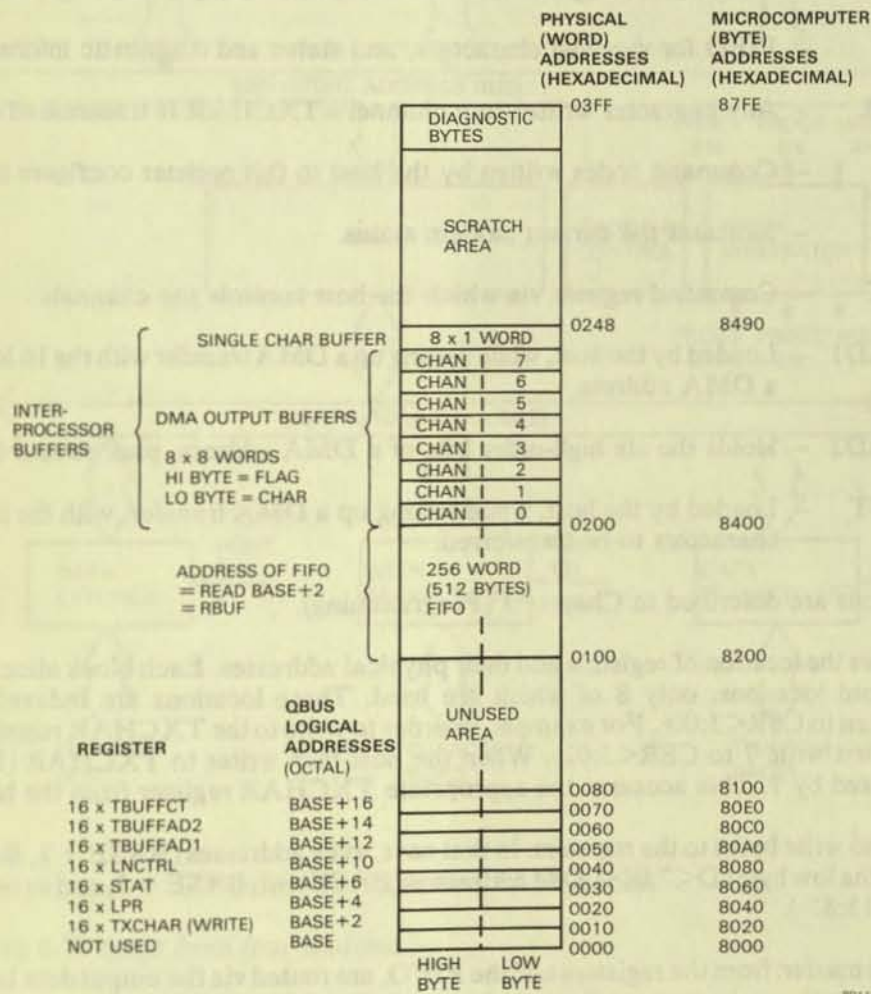
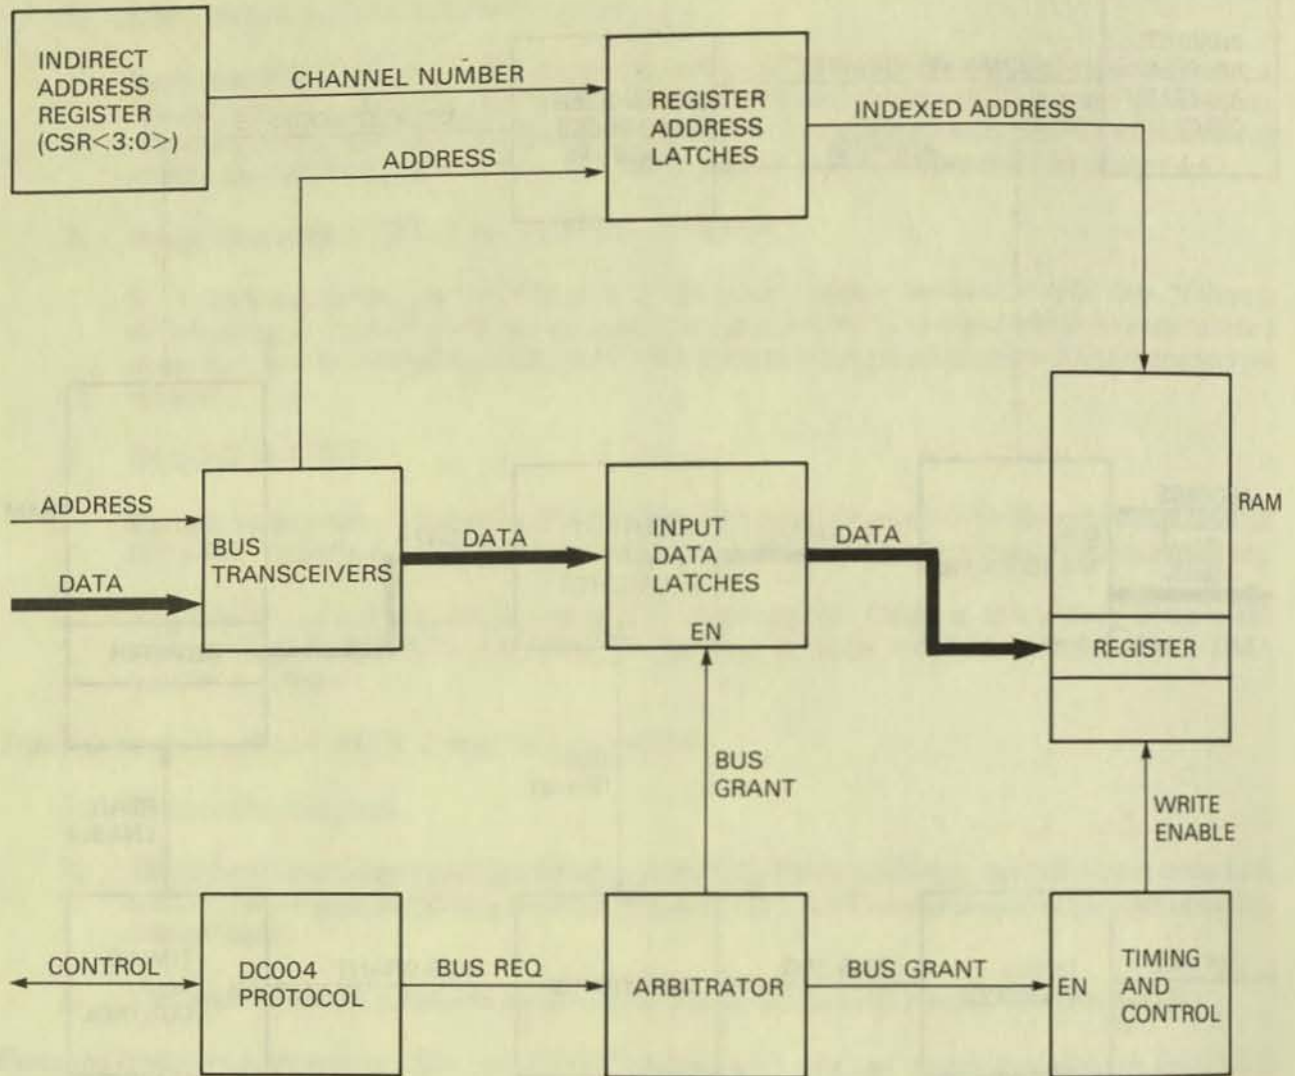

Figure 4-6 Common RAM – Memory Map
Figure 4-9 Writing to a Register
4.4.2.1 Memory Map – The common RAM (common to both microcomputers) is mapped to microcomputer addresses 8000₁₆ to 87FF₁₆ as shown in Figure 4-6.
Figure 4-6 shows the location of registers and their physical addresses. Each block allocated to a register contains 16 word locations, only 8 of which are used. These locations are indexed by an address previously written to $CSR\langle 3:0 \rangle$. For example, in order to write to the TXCHAR register for channel 7, the host must first write 7 to $CSR\langle 3:0 \rangle$. When the host then writes to TXCHAR ($BASE + 2$), the address is indexed by 7. This accesses the appropriate TXCHAR register from the block of 16.
Each time PROC1 services the single-character buffers it also checks, and services if needed, one pair of channels for DMA. The channels are serviced in rotation. This means that a specific channel is serviced every 4×780 microseconds = 3.12 milliseconds. PROC1 will transfer up to eight characters to each of the two DMA output buffers in common RAM (Figure 4-6).
(See Figure 4-8.) Except for RBUF or the CSR, the channel number must first be written to CSR<3:0>. This is followed by a READ from BASE + n (see Figure 4-6).
(See Figure 4-9.) In order to write to a register the channel number is first written to CSR bits <3:0>. This is followed by a WRITE to BASE + n (see Figure 4-6).